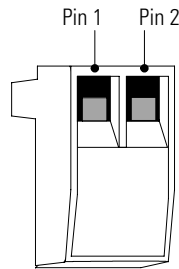

Figure 12. REPO Connector
3. Connect isolated, normally-open, dry contacts (rated to handle 60 Vdc maximum, 30 Vac RMS maximum, and 20 mA maximum) across the REPO device to Pin 1 and Pin 2 (see Figure 12). Use stranded, non-shielded wiring, size 0.75 mm²–0.5 mm² (18–20 AWG).